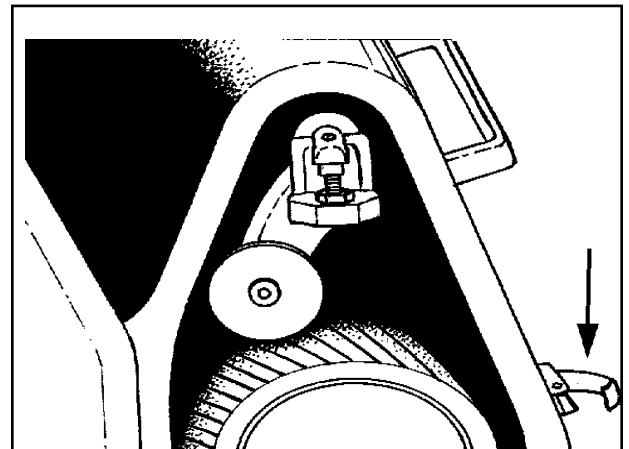

Figure 12
7. Install a new abrasive belt by sliding the abrasive over the tension roller and contact wheel. (See figure 12)